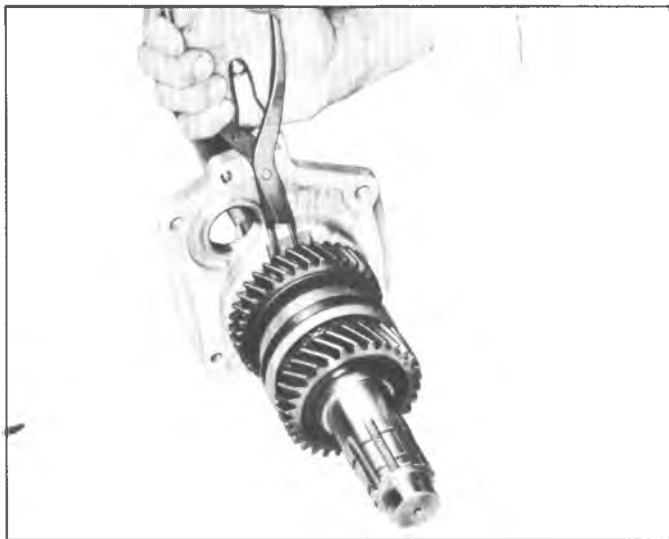

Fig. 10B--Removing Rear Bearing Retainer
16. Spread rear bearing retainer snap ring and press mainshaft out of the retainer (fig. 10B).
9. Install the rear bearing retainer (fig. 10B). Spread the snap ring in the plate to allow the snap ring to drop around the rear bearing and press on the end of the mainshaft until the snap ring engages the groove in the rear bearing.